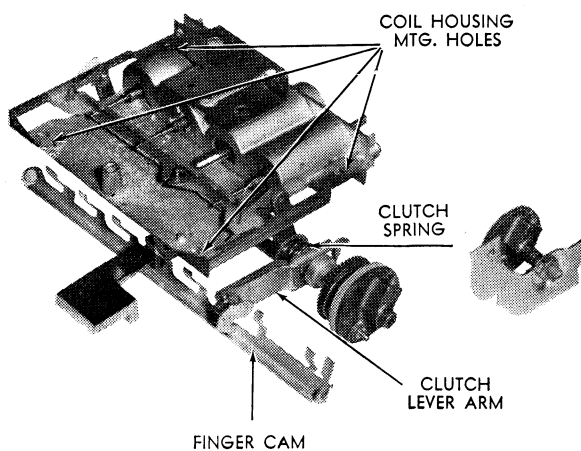

FIG. 8
11. Remove the four screws holding the coil housing and lift the coil housing back so that the pushbutton slides may be removed. (Figure 8).
12. Remove the finger cam arm (Figure 8) by first removing the spring clip on the right side of the arm. The finger arm may then be removed by prying the left end off and working it out.